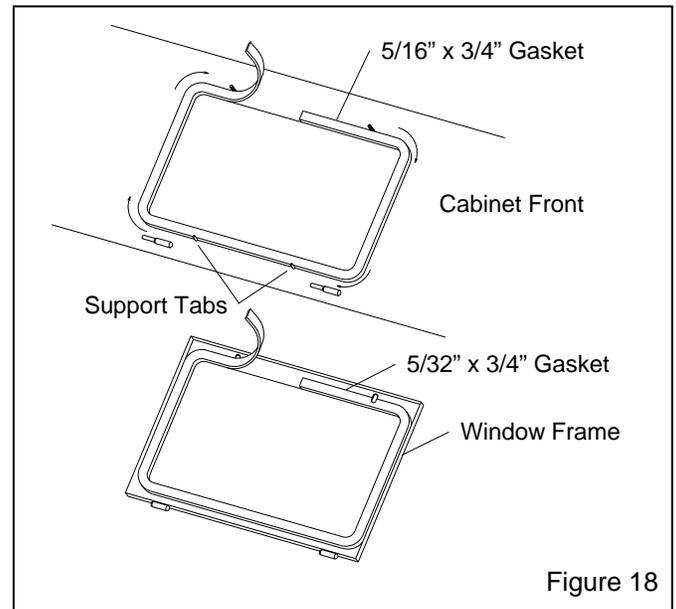

Figure 18
7.4 Window Gasket Replacement, Figure 18
7.4.4 Peel a short section of adhesive backing from the 5/16"-thick strip gasket, and adhere the gasket to the center of the top edge of the window opening as shown in Figure 18. Peel additional backing as needed, and work the strip around the radius of each corner, pressing it firmly to bond. Trim the gasket to fit and compress the ends to seal.